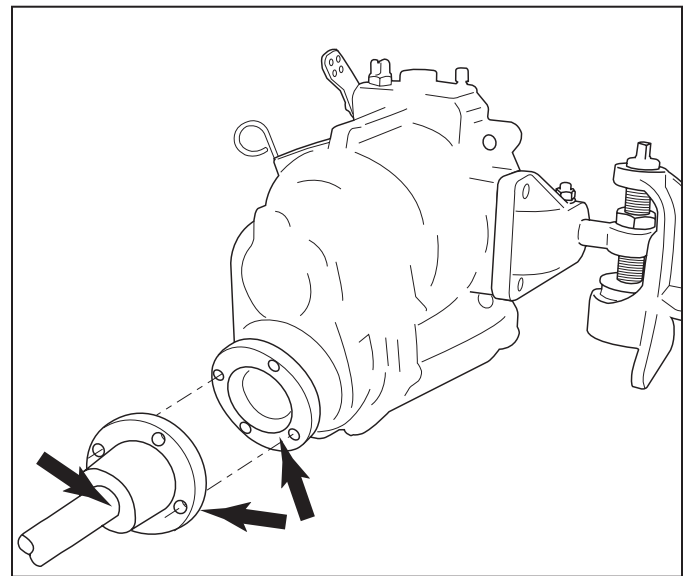

Figure 11-24 Shaft Mating Surface Check
1. Check the mating surfaces on the transmission and the propeller shaft couplings. Make sure they are clean and flat (Figure 11-24).